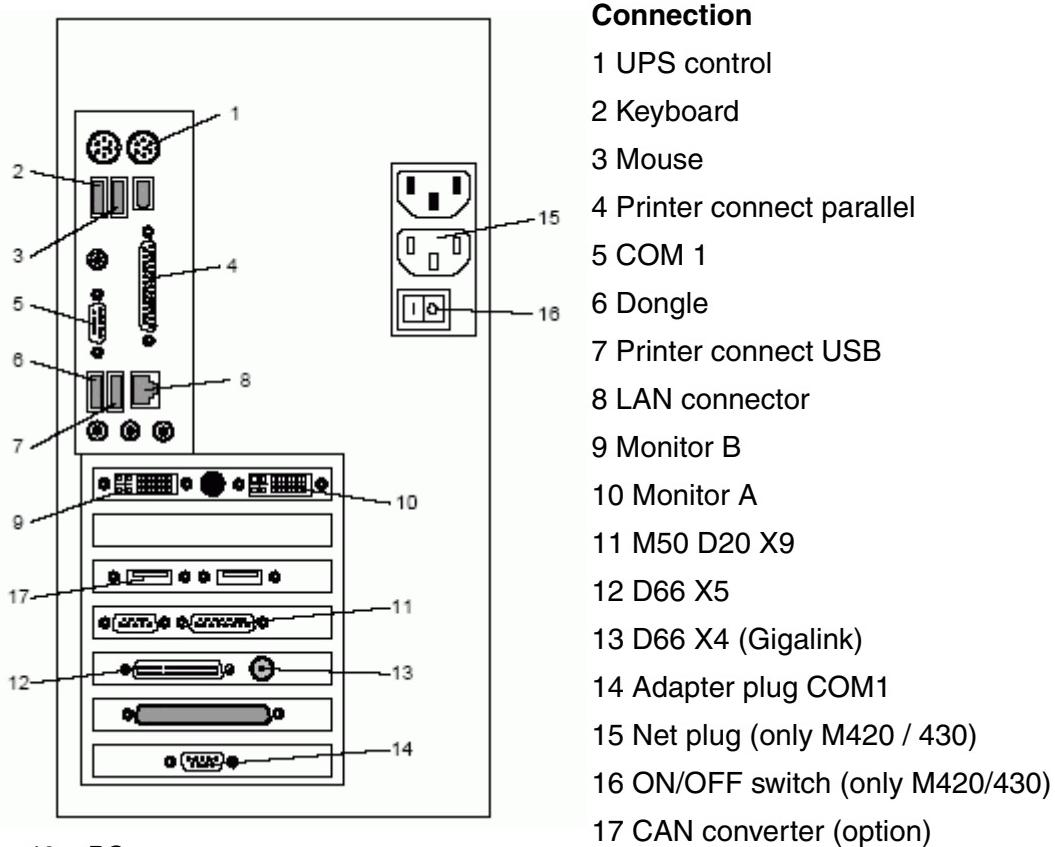

Fig. 46: PC rear
14. Unplug the PC connectors D 66 X4 (BNC) and D66 X5 (Fig. 46 / p. 91) and pull these cables down.
4. Unplug all cable connections from the PC (\(Fig. 46 / p. 91\).
7. Reconnect all PC plugs (\(Fig. 46 / p. 91\).
All plugs must be connected as shown in the above figure for software installation to be successful (see (\(Fig. 46 / p. 91\)).
10. Reinstall the PC in reverse order and reconnect the PC plugs (see (Fig. 46 / p. 91)).
12. Reinstall the PC in reverse order and reconnect the PC plugs (see (Fig. 46 / p. 91)).